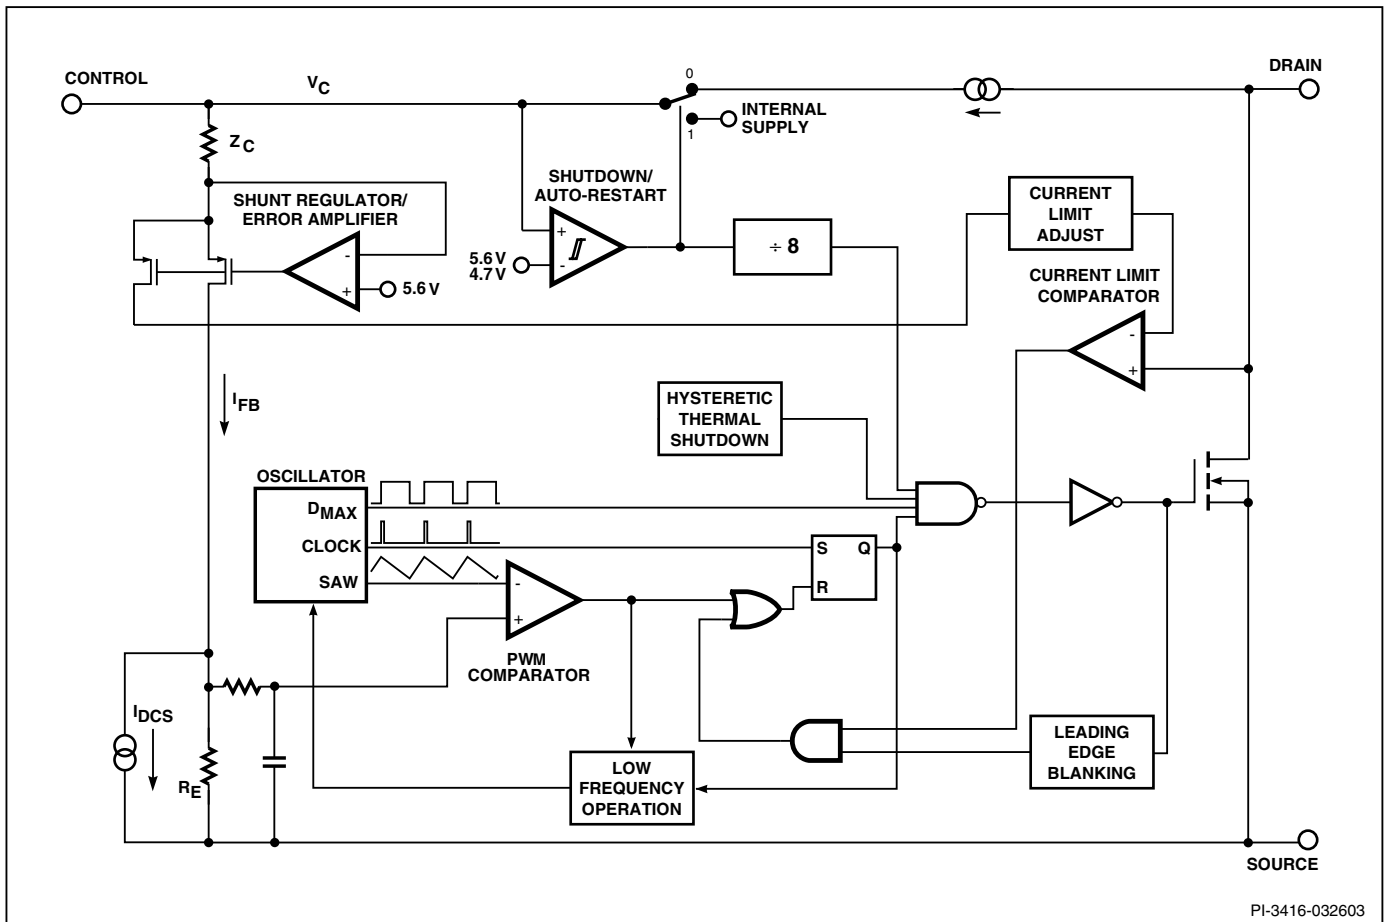
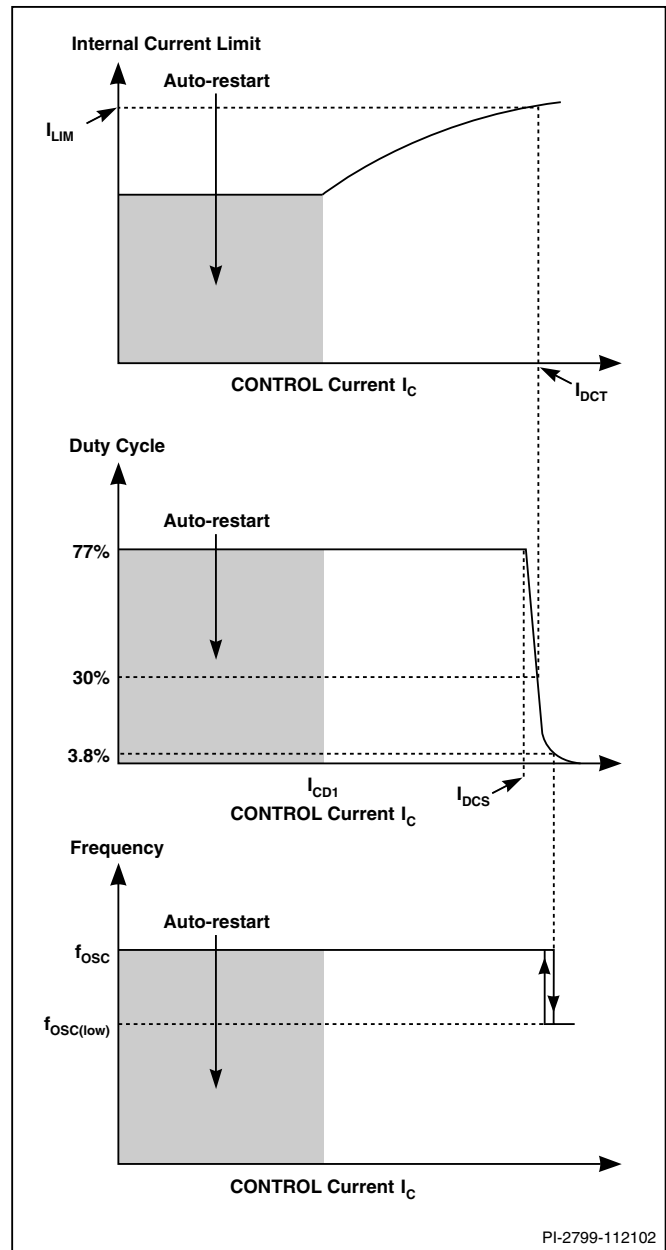
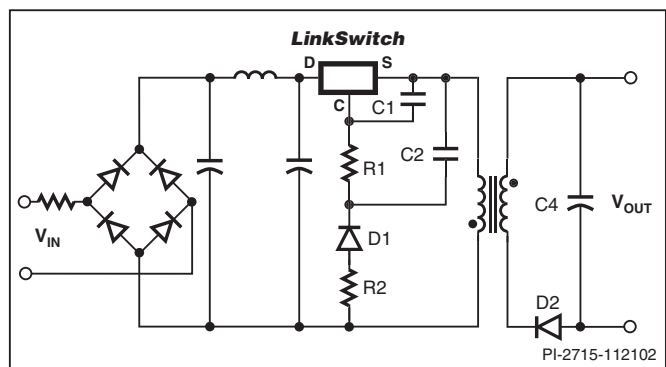
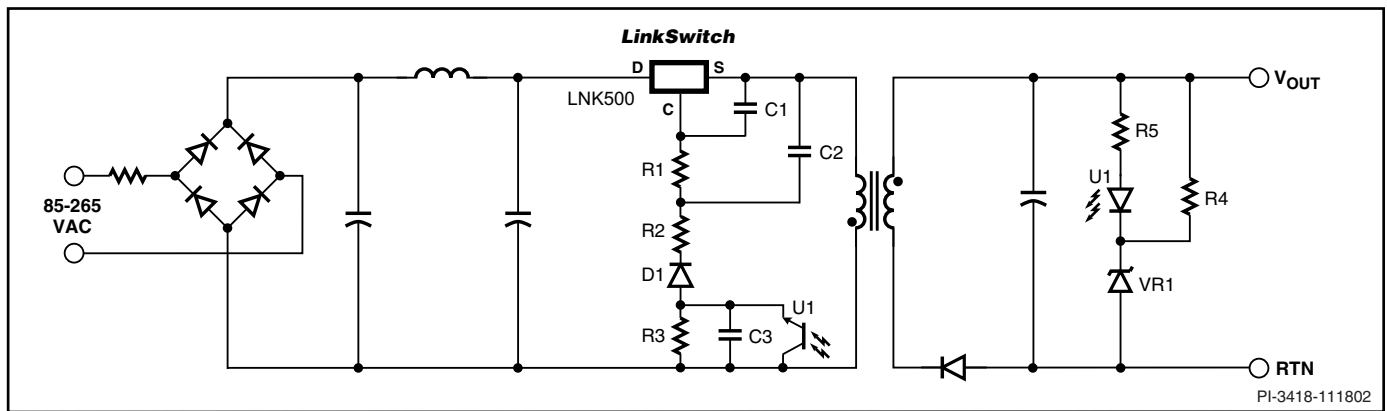

Figure 2. Block Diagram.
Figure 4. CONTROL Characteristics.
Figure 5. Power Supply Outline Schematic.
Figure 6. Power Supply Outline Schematic with Optocoupler Feedback.
The duty cycle, current limit and operating frequency relationships with CONTROL pin current are shown in Figure 4. Figure 5 shows a typical power supply outline schematic which is used below to describe the *LinkSwitch* operation.
During power up, as  $V_{IN}$  is first applied (Figure 5), the CONTROL pin capacitor C1 is charged through a switched high voltage current source connected internally between the DRAIN and CONTROL pins (see Figure 2). When the CONTROL pin voltage reaches approximately 5.6 V relative to the SOURCE pin, the high voltage current source is turned off, the internal control circuitry is activated and the high voltage internal MOSFET starts to switch. At this point, the charge stored on C1 is used to supply the internal consumption of the chip.
As the output voltage, and therefore the reflected voltage across the primary transformer winding ramp up, the feedback CONTROL current  $I_C$  increases. As shown in Figure 4, the internal current limit increases with  $I_C$  and reaches  $I_{LIM}$  when  $I_C$  is equal to  $I_{DCT}$ . The internal current limit vs.  $I_C$  characteristic is designed to provide an approximately constant power supply output current as the power supply output voltage rises.
When  $I_C$  exceeds  $I_{DCS}$ , typically 2 mA (Figure 4), the maximum duty cycle is reduced. At a value of  $I_C$  that depends on power supply input voltage, the duty cycle control limits *LinkSwitch* peak current below the internal current limit value. At this point the power supply transitions from CC to CV operation. With minimum input voltage in a typical universal input design, this transition occurs at approximately 30% duty cycle. R1 (Figure 5) is therefore initially selected to conduct a value of  $I_C$  approximately equal to  $I_{DCT}$  when  $V_{OUT}$  is at the desired value at the minimum power supply input voltage. The final choice of R1 is made when the rest of the circuit design is complete. When the duty cycle drops below approximately 4%, the frequency is reduced, which reduces energy consumption under light load conditions.
Figure 6 shows a typical power supply outline schematic using *LinkSwitch* with optocoupler feedback to improve output voltage regulation. On the primary side, the schematic differs from
Figure 5 by the addition of R3, C3 and optocoupler U1. R3 forms a potential divider with R1 to limit the U1 collector emitter voltage.
The feedback configuration in Figure 6 is simply a resistive divider made up of R1 and R3 with D1, R2, C1 and C2 rectifying, filtering and smoothing the primary winding voltage signal. The optocoupler therefore effectively adjusts the resistor divider ratio to control the DC voltage across R1 and therefore, the feedback current received by the *LinkSwitch* CONTROL pin.
When the power supply operates in the constant current (CC) region, for example when charging a battery, the output voltage is below the voltage feedback threshold defined by U1 and VR1 and the optocoupler is fully off. In this region, the circuit behaves exactly as previously described with reference to Figure 5 where the reflected voltage increases with increasing output voltage and the *LinkSwitch* internal current limit is adjusted to provide an approximate CC output characteristic. Note that for similar output characteristics in the CC region, the value of R1 in Figure 5 will be equal to the value of R1+R3 in Figure 6.
When the output reaches the voltage feedback threshold set by U1 and VR1, the optocoupler turns on. Any further increase in the power supply output voltage results in the U1 transistor current increasing, which increases the percentage of the reflected voltage appearing across R1. The resulting increase in the *LinkSwitch* CONTROL current reduces the duty cycle according to Figure 4 and therefore, maintains the output voltage regulation.
transistor voltage and dissipation ratings and should be fully tested before finalizing a design. The values of C2 and C3 are less important other than to make sure they are large enough to have very little influence on the impedance of the voltage division circuit set up by R1, R3 and U1 at the switching frequency. Normally, the values of C2 and C3 in Figure 6 are chosen equal to the value of C2 in Figure 5, though the voltage rating may be reduced depending on the relative values of R1 and R2 discussed above. See Applications section for typical values of components.
The output voltage load variation can be improved across the whole load range by adding an optocoupler and secondary reference (Figure 6). The secondary reference is designed to only provide feedback above the normal peak power point voltage to maintain the correct constant current characteristic.
The schematic shown in Figure 5 outlines the key components needed for a *LinkSwitch* supply.
Since the SOURCE pins in a *LinkSwitch* supply are switching nodes, the copper area connected to SOURCE together with C1, C2 and R1 (Figure 5) should be minimized, within the thermal constraints of the design, to reduce EMI coupling.